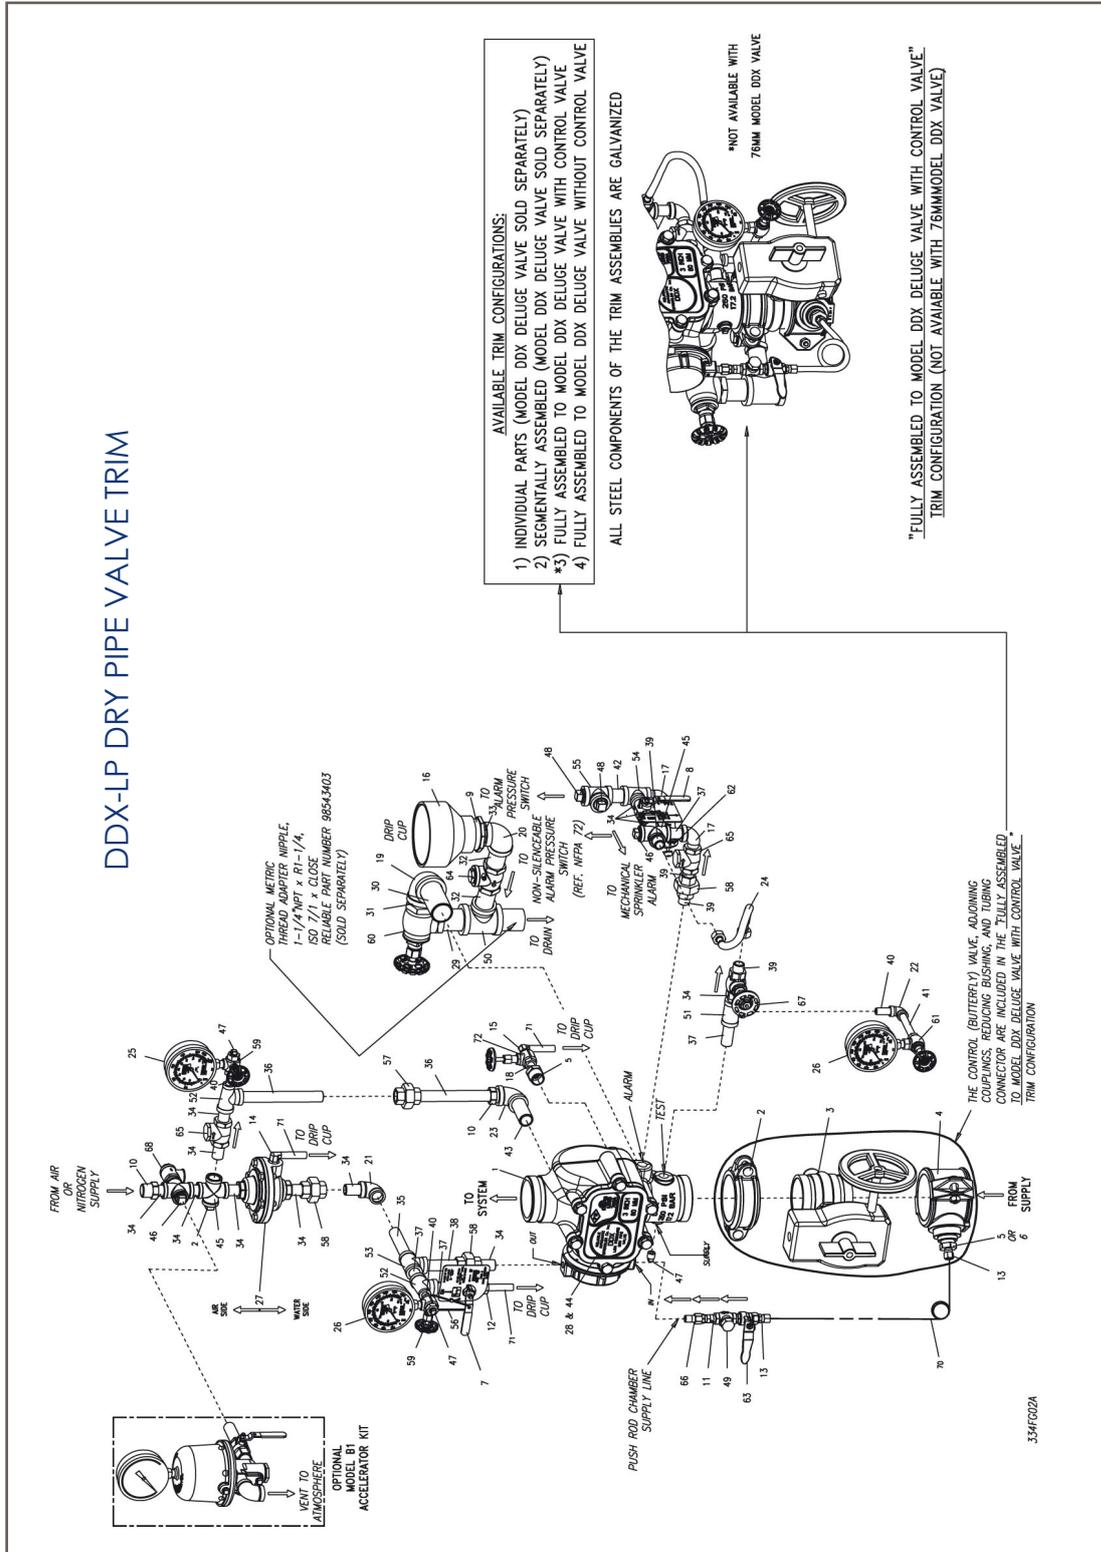

Fig. 2
The Model DDX-LP Dry Pipe Valve's trim set (see Fig. 2) provides all of the necessary equipment for connections to the push rod chamber's inlet and outlet ports, the 1 1/4" (30mm) main drain, alarm devices, air supply, water supply, and required pressure gauges. This trim set is available in individual parts, in time-saving, segmentally assembled kit forms, or fully assembled to the Model DDX-LP Dry Pipe Valve (with or without a control valve). All the sizes of the Model DDX-LP Dry Pipe Valve trim sets may be equipped with the optional Model B1 Accelerator, trim kit, (see Figs. 2 & 3). This device acts as an exhaustor which will hasten the operation of the Model LDX Dry Valve Actuator and minimize the water delivery time for the entire system.
DDX-LP Dry Pipe Valve System Parts List (Refer to Fig. 2)
- Using a tapped connection directly below next to the main water supply control valve using a welded outlet or the appropriate mechanical fittings. A grooved-end outlet coupling is one way to achieve this (see Fig. 2); or